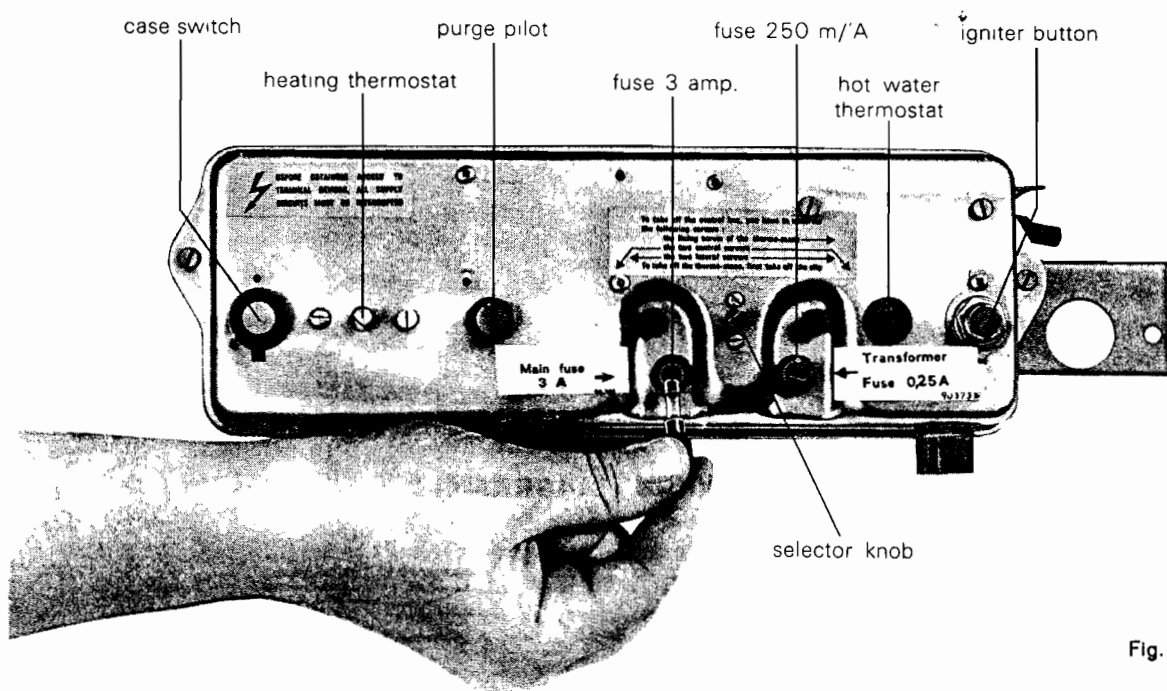

Fig. 5
Controls within the boiler have been designed especially for this particular unit by e.l.m. leblanc. The main control of the boiler is made via the main control box (fig. 5). This contains the heating thermostat, the spark ignition device, the case safety switch, transformers, condensers and a printed circuit board with components to convert to D.C., and to stabilise voltage. Also the main fuses, 3 amp, for the 240 volts controls, and 250m/A for the transformer are positioned within this box. There is also a relay switch within the box, which controls the operation for the flue fan. Other electrical controls such as safety devices are fitted throughout the boiler. There are safety switches fitted to the heat exchanger, one for the domestic system and one for the heating system which operate at 92 °C. to close the electrical supply to the two stage magnetic valve (23) (Fig. 2) which stops gas to the main burner. A case ambient temperature limit stat (41) controls the rising temperature, inside the case, caused by the lighted pilot when the boiler does not work. It operates the fan when the ambient temperature reaches 55 °C. An Over-heat Cut-out Device and Flame Failure Device are fitted via the Thermocouple (18). These will cause the Boiler to close down completely, including the Pilot light if a temperature of 98°C should be reached or should the Pilot light be extinguished for any reason. Detailed drawings of the Electrical Controls are given in the Wiring Diagrams (pages 10 to 13) ; but we must advise you that should a fault arise within the Control system, an authorised agent of the supplier should be called to make any necessary adjustment or repairs.